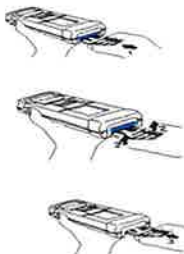

Fig. 1
- d. Insert chip with arrow pointing toward the analyzer and barcode up, into the chip inlet as shown in fig. 1.